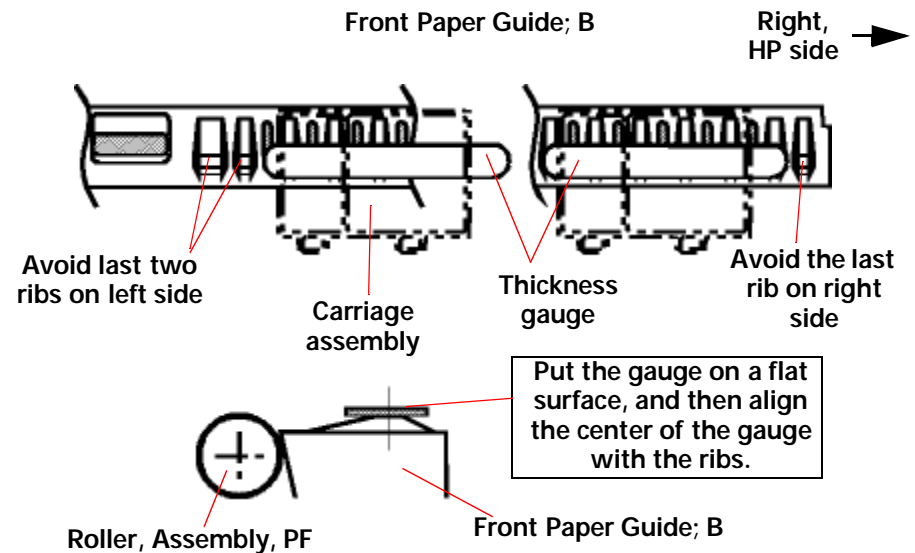

Figure 5-1. Setting the Parallelism-Adjustment Gauge
3. Move the carriage to the center and set the thickness gauge on the fixed position of the front paper guide; B as shown in Figure 5-1 on the next page.